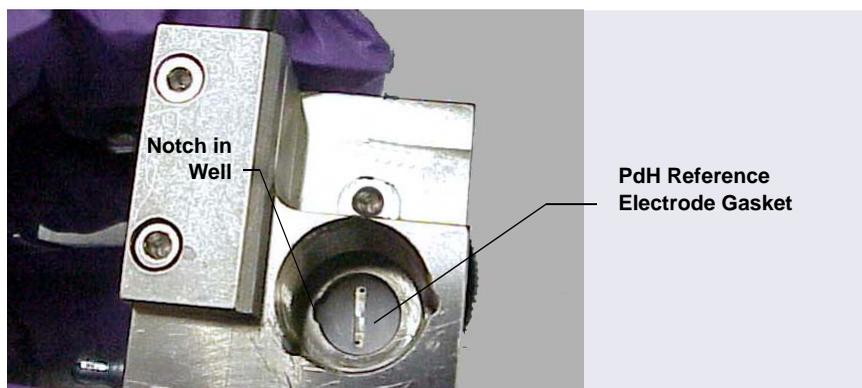

Figure B-16. *Reference Electrode Well with PdH Reference Electrode Gasket Installed*
3. Orient the gasket so that the notched edge of the gasket aligns with the corresponding gasket notch in the reference electrode well. Then, press the gasket into the well (see Figure B-16).